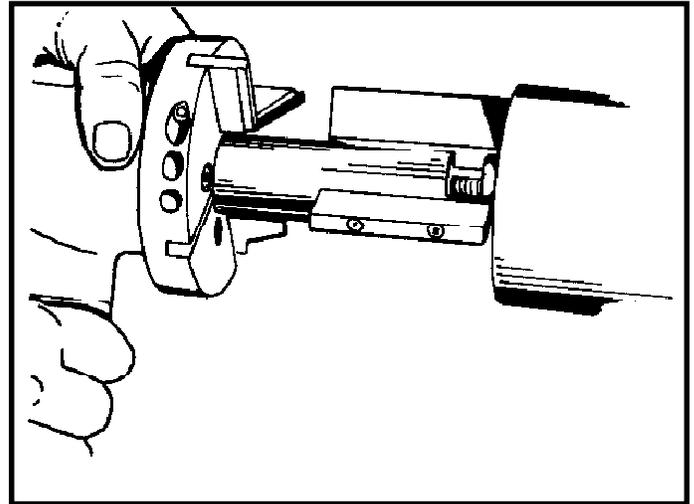

Figure 11
5. Once the cutting tools are in place, the machine can be moved from one pipe to another of the same size without resetting the tool bits. The same land, bevel and I.D. bore will be achieved (Fig. 11).